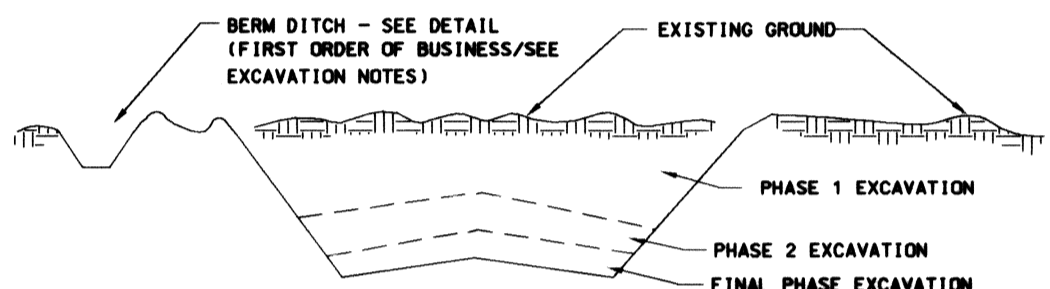

Figure 4 Incremental Stabilization - Cut Slopes
- i. A mulch anchoring tool is a tractor drawn implement designed to punch and anchor mulch into soil surface a minimum of two (2) inches. This practice is most effective on large areas, but is limited to flatter slopes where equipment can operate safely. If used on sloping land, this practice should be used on the contour if possible.
- ii. Construction sequence (refer to Figure 4 below):
- a. Excavate and stabilize all temporary erosion, side ditches, or berms that will be used to divert runoff around the fill. Construct Slope Silt Fence on low side of fill as shown in Figure 4, unless other methods shown on the plans address this area.